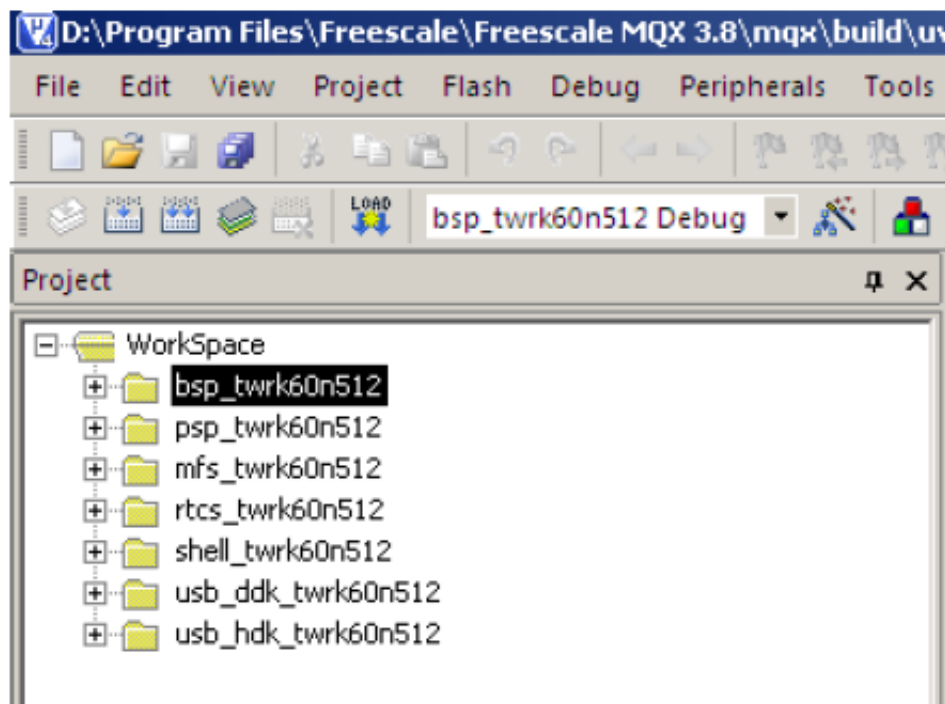
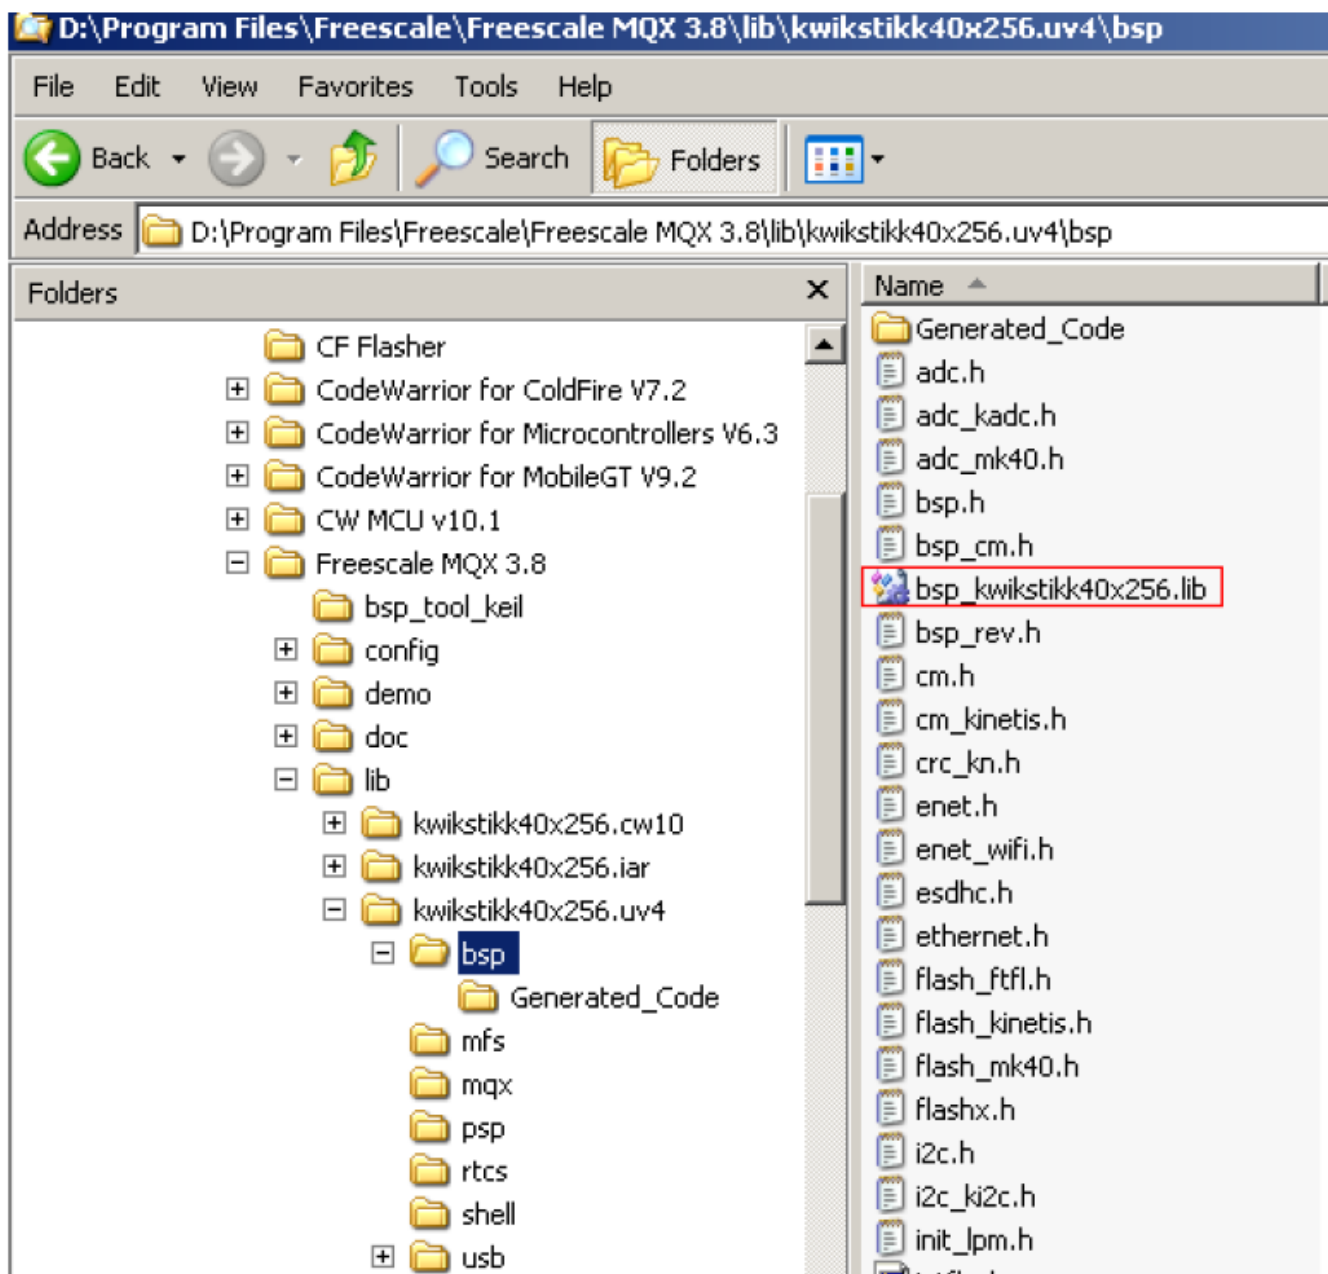

Figure 2. Workspace in <config> folder containing all the MQX components
Figure 3. Output folder of lib
- **build_libs.uvmpw** at <mqx_install>\config\trwk60n512\uv4: This is a workspace build file which includes all the components of MQX including BSP, PSP, MFS, RTCS, SHELL, and USB. See Figure 2. This workspace must be opened to rebuild the components during the development.
- **lib:** This is the output folder for all the projects in Figure 2. It contains the output .lib file and .h file which are used by the application projects. See Figure 3.